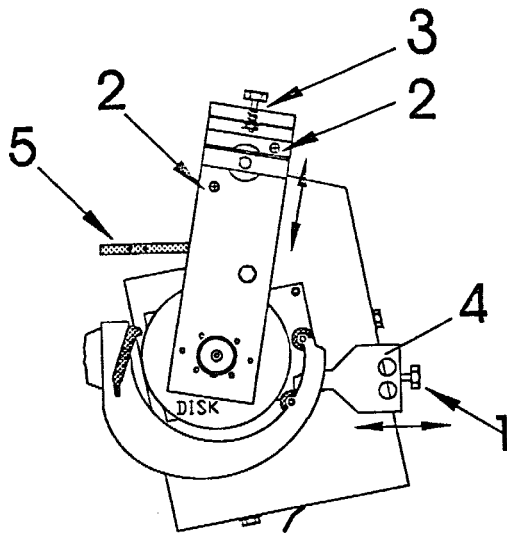

Fig.12
- In left-right direction with screw at gripper arm stop bracket (Fig. 12, Pos. 1)
- Loosen the screws near the pusher shaft (Fig. 12, Pos. 2)
- Turn screw at rear of player chassis (Fig. 12, Pos. 3).
- Adjust by bending the stop bracket (Fig. 12, Pos. 4).